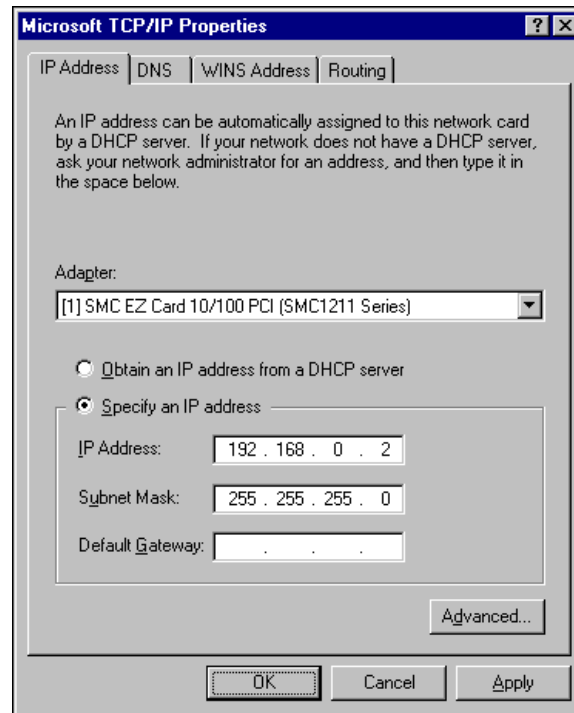

Figure A-3: Microsoft TCP/IP Properties Dialog
- 9 Highlight **TCP/IP Protocol** in the Protocols tab and click **Properties** to open the Microsoft TCP/IP Properties dialog (Figure A-3):